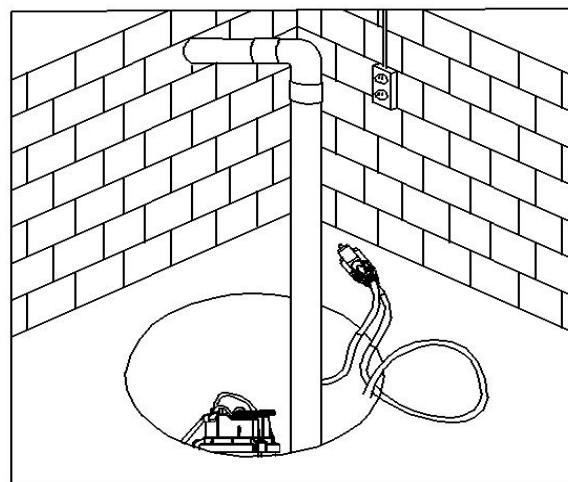

Figure 3
3. Place the pump in the sump; make sure that nothing interferes with switch operation. (See Figure3). **CAUTION:** Make sure the pump cannot move in the sump. If the pump moves when it runs, the piping or sump wall may interfere with the switch and prevent the pump from starting or stopping causing a risk of flooding.